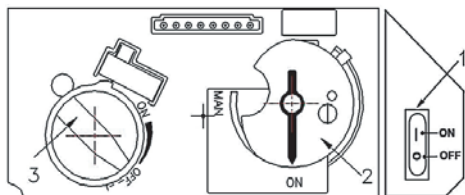
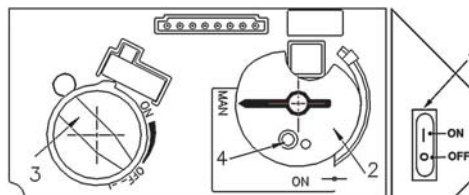
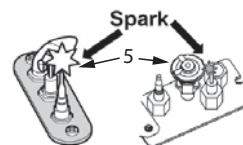

Fig 1
Fig 2
Fig 3
2. SET ON/OFF SWITCH (1) TO "OFF" POSITION.
- Wait five (5) minutes to clear out any gas, then smell for gas, including near the floor. If you smell gas, STOP! Follow "B" in the safety information above on this label. If you don't smell gas, go to the next step.
3. AUTOMATIC IGNITION (fig. 1): Locate the pilot (fig. 3.) inside of firebox at Left Hand side.
- ON/OFF switch (1) in ON position, MAN-knob (2) in ON position; set Flame Adjustment knob (3) to lowest setting (C);
- When the pilot is lit, the Flame Adjustment knob (3) will automatically rotate to the highest setting.
4. MANUAL IGNITION (fig. 2): With the window off, locate the pilot (fig. 3) inside of firebox at Left Hand side;
- ON/OFF switch (1) in ON position, MAN-knob (2) in MAN position;
- Set Flame Adjustment knob (3) to the lowest setting (C);
- Push down the metallic core (4) with a pen or similar instrument; this will establish the pilot gas flow;
- Light gas at the pilot (5) with a match;